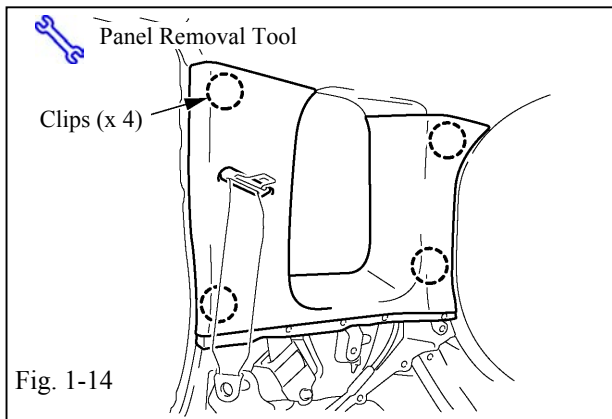

Fig. 1-14
- (1) Disengage the clips. (Fig. 1-14)
- (2) Route the rear seat belt through the slot in the roof side inner garnish, then remove it.